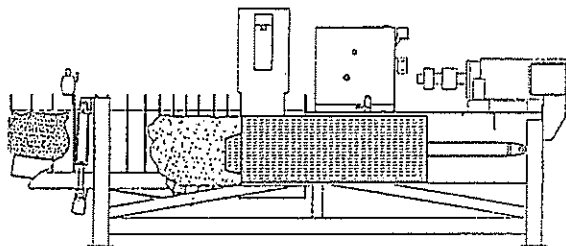

Fig. 6 Advancing plunger
6. PROXIMITY SWITCH 2 RELEASED The advancing plunger releases proximity LS-2 and RL-5. The plunger continues to advance into the chamber, compacting the product, and providing a surface for the incoming product to fall upon (fig. 6):